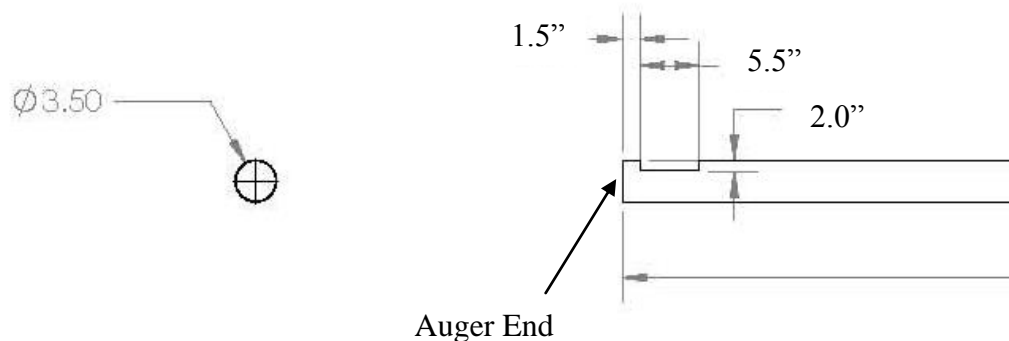

Figure 2.3a: Auger 3" PVC Cutout Detail.
2. The "Auger Tube" consists of a Schedule 40 PVC (meeting ASTM D1785) pipe that is supplied by the Certified Installer. This pipe must be cut to the proper dimensions (See Figure 2.3a below) and inserted in the Pellerly-provided coupler. Figure 2.3a below details the cutout to be made in the pellet hopper end of the PVC. Cut Square Hole in PVC per the detail below. Auger should be cut to ride on the center of the 1.50" "band" at the end of the PVC